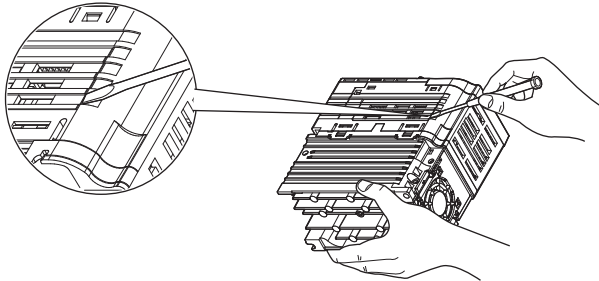

Figure 8 Removing the Cable-access Cover on the Drive
1. Insert a flat-blade screwdriver blade into one of the slots on the drives cable-access cover and gently pry up to loosen and remove the cover as shown in **Figure 8**.